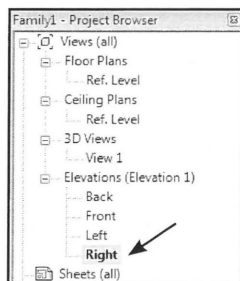

Fig. 04.33. Stå i *Right* i *Project Browseren*.
- Stå i *Elevations: Right* i *Project Browseren* (Fig. 04.33).